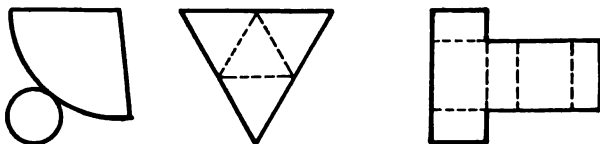

Fig. 80.
9. Name the solids which are represented by these developments. (Fig. 80).